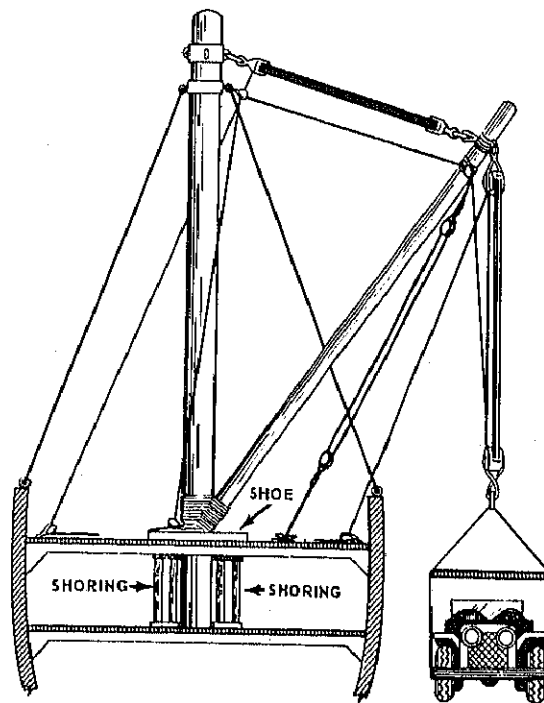

Figure 2-7.—A swinging derrick.
Figure 2-7 shows a jury-rigged derrick aboard a ship. The butt of the boom is stepped to the foot of the mast in this example, with the ship's standing rigging acting as backstays.
A swinging derrick constructed to move a very heavy weight has two features not included in the ordinary rig: (1) a large shoe placed on deck under the heel of the boom, and (2) shoring installed to support the deck area under the shoe. Both the shoe and the shoring are illustrated in figure 2-7.